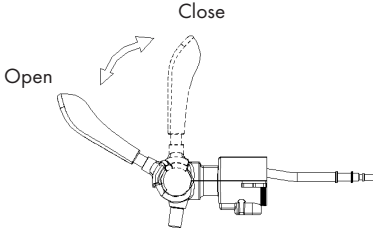

Figure 8
9. Turn the knob to "+" and now you can use the tap to press the beer out (pull the handle forward to press out the beer as shown in figure 8).